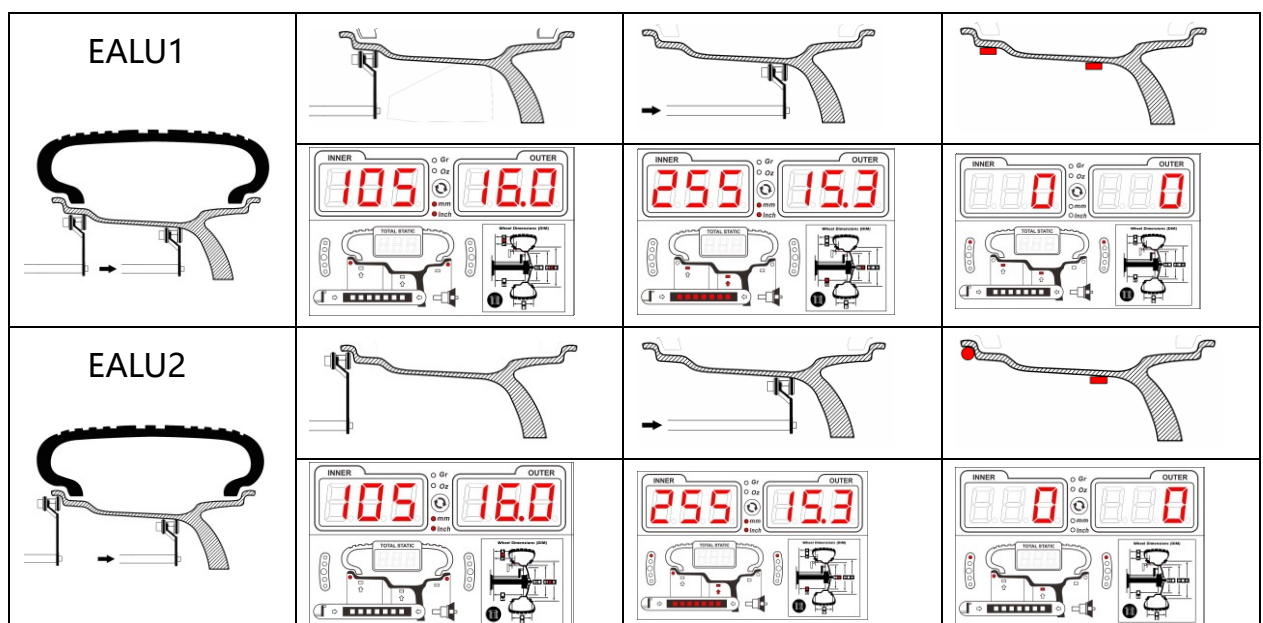

Fig.27 EALU balance measurement mode
5.3.5.1 Entering EALU mode and wheel parameter input (Fig. 27)